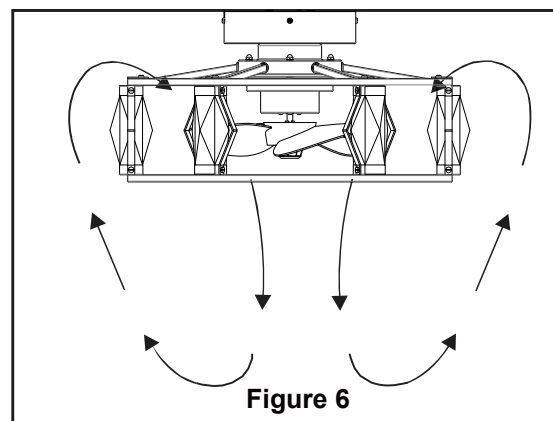

Figure 6
- ☐ Summer (Forward): Downward airflow creates a cooling effect (Figure 6). This allows higher air conditioner settings while staying comfortable.